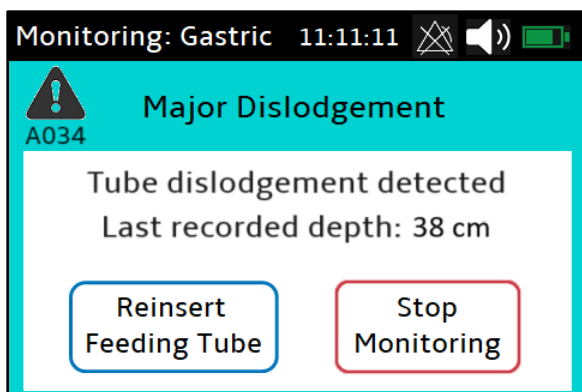

Figure 20: Major Dislodgement Alarm
- **Major Dislodgement Alarm (Figure 20):** Monitor detects that a significant length of the feeding tube has been pulled out-of-body. In this scenario, the user should repeat the guided insertion procedure (including the Safety Check and Stomach Check) to navigate back to the stomach. If Major Dislodgement Alerts are disabled by the user in the Settings screen, a smaller "Check for Dislodgement" message is displayed in the Placement screen instead (Figure 22).